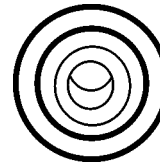

Figure 29. Pre-Heat Lamp
4. Depending on the temperature of the coolant (cold weather conditions), the pre-heat lamp (Figure 29) will light (**ON**) and remain on until the pre-heating cycle has been completed. After completion of the pre-heating cycle, the light will go **OFF** and the engine will start up automatically.